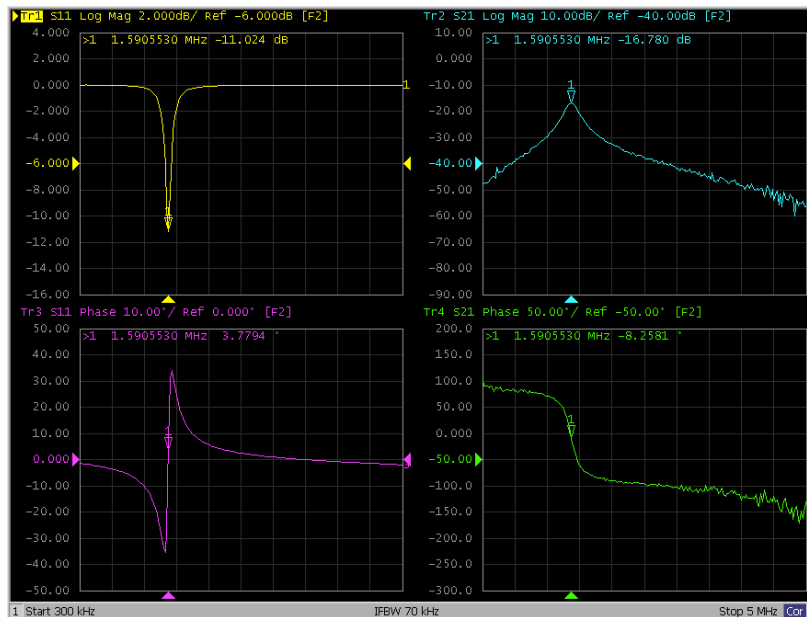

Figure 5: VNA bandpass filter S-parameter measurement.
6. Record the the values for the center frequency (cent), maximum S_{21} , minimal S_{11} , and bandwidth (BW) in Table 8.
8. Take a screen capture of the 2-port S parameters of your filter, see Figure 5.